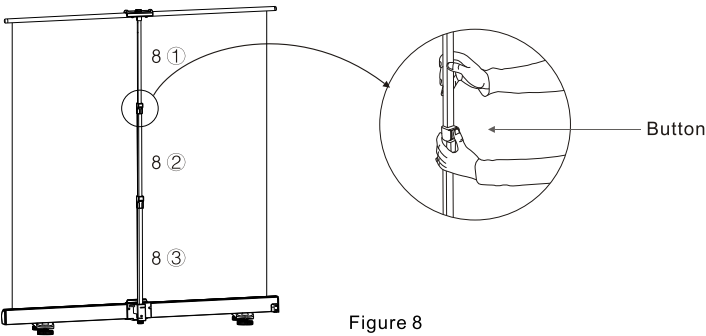

Figure 8
4.Pull up and lock the uphold bar(8) to the desired height . The screen is fully released . The screen height could be adjusted to 6 different levels by adjusting locking position of uphold bar. (Figure 8)